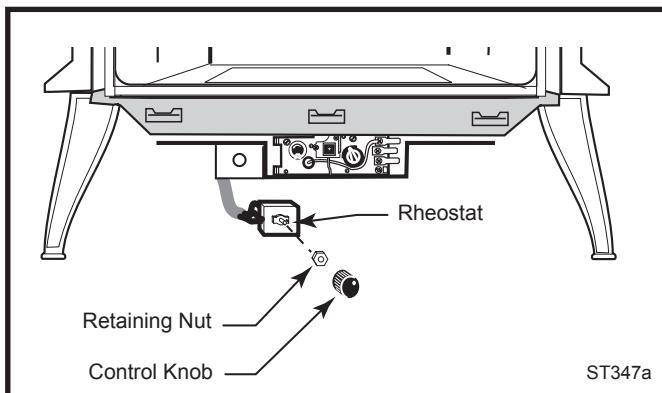

Fig. 14 Attach rheostat to control panel. Valve may look different.
11. The rheostat control switch attaches to the left side of the valve bracket at the front of the stove. (Fig. 14)